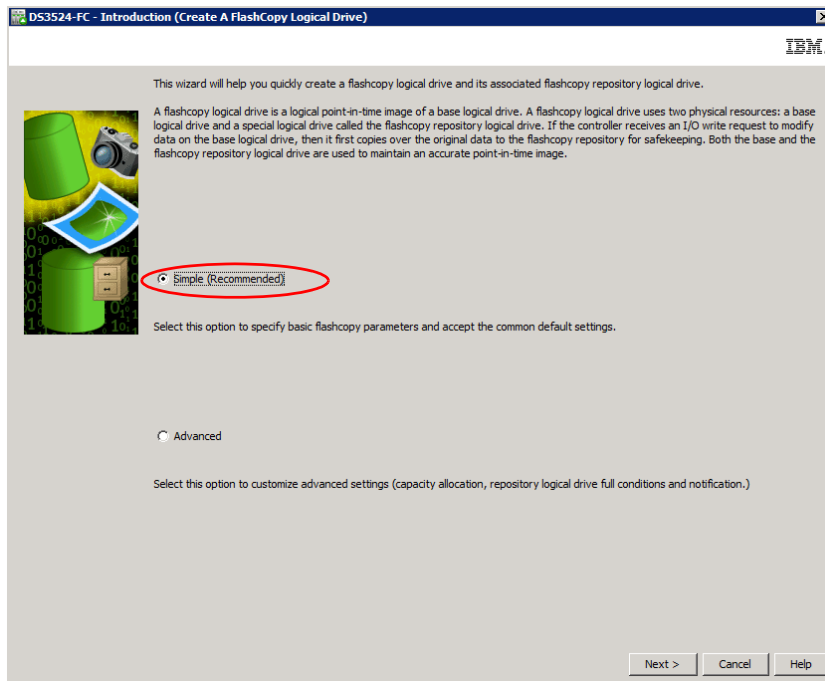

Figure 2-6 Create FlashCopy Logical Drive wizard Introduction: Simple
The Introduction window (shown in Figure 2-6 on page 23) defines what a FlashCopy logical drive is and the physical components that are associated with a FlashCopy logical drive. Select one of the following paths through the Create FlashCopy Logical Drive wizard:
- Simple path: Proceeds to the Specify Name panel, which provides a preview of the FlashCopy and repository default names. You may also change the defaults on this panel. If you select this path (as shown in Figure 2-6 on page 23), go to step 2.
2. If you select the simple path, as shown in Figure 2-6, click **Next**, and then follow these steps (if you select Advanced, go to step 3 on page 28):